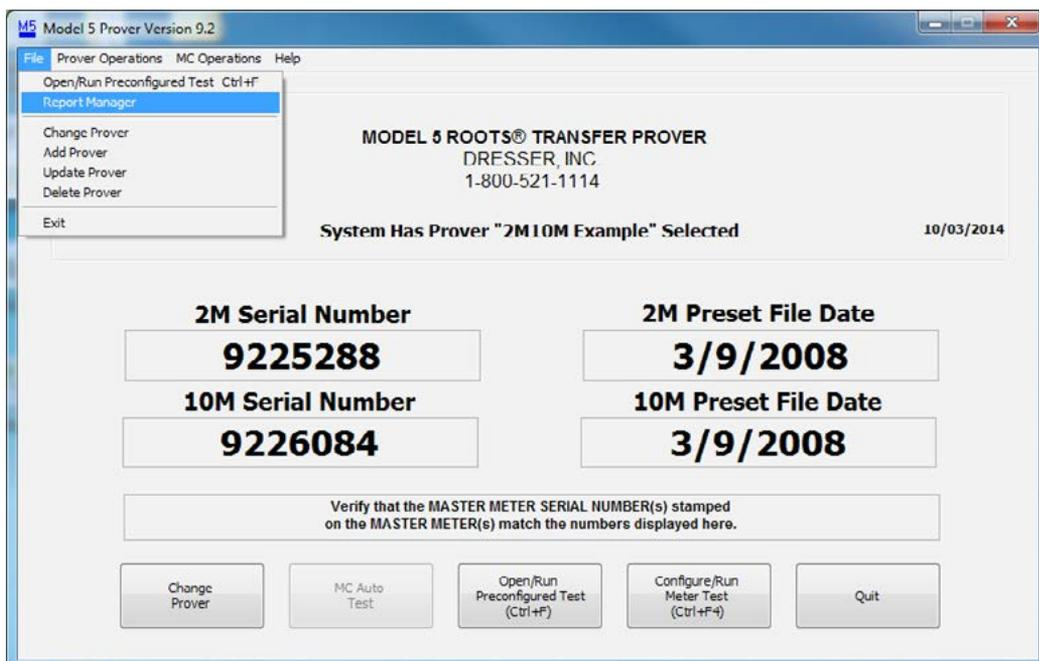

Figure 107: Report Manager Selection
1. Select “File” and Report Manager from the Prover Main Screen. See **Figure 107**.